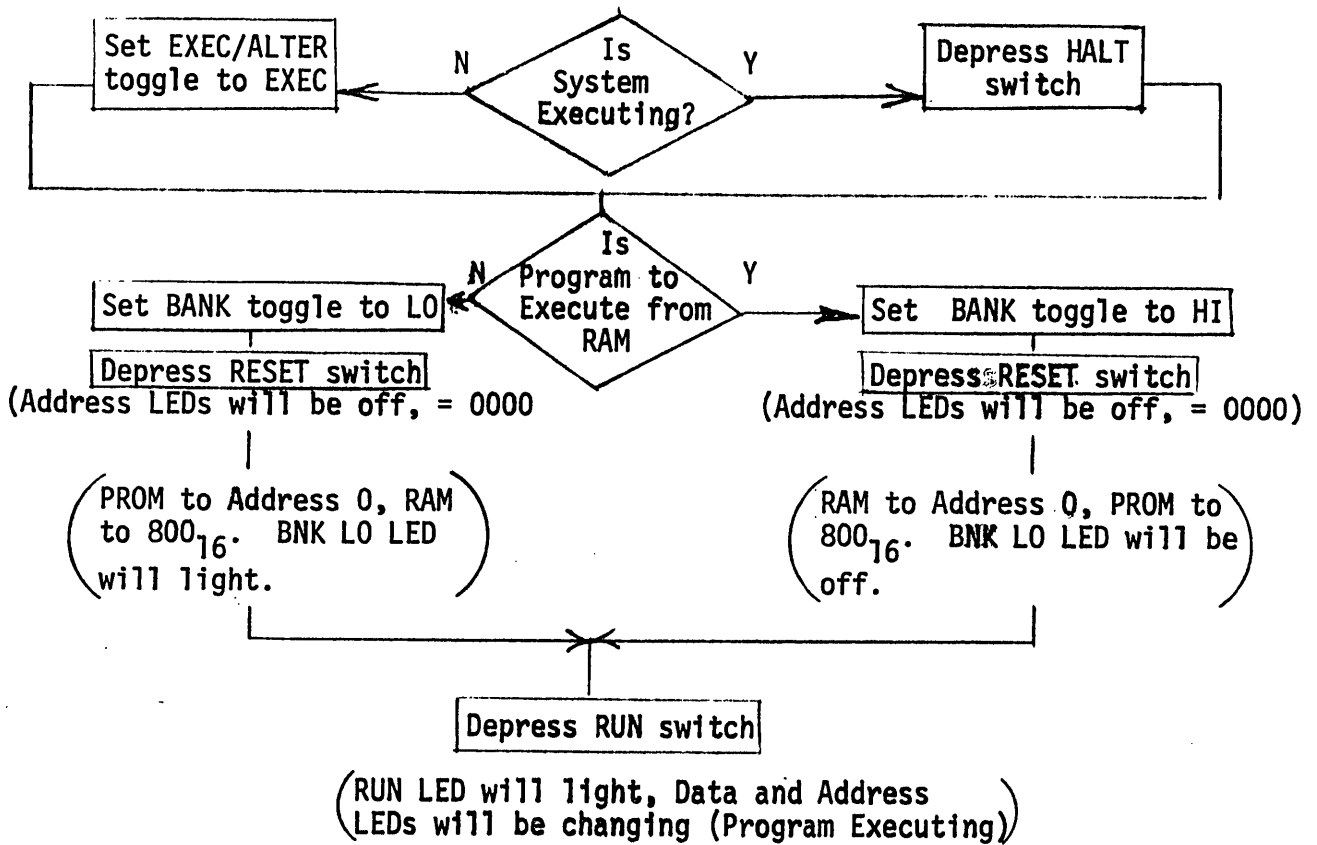

FIGURE 3
- 3.2 Program Start from the Console: Figure 3 shows how to start or restart a program execution from address 0.